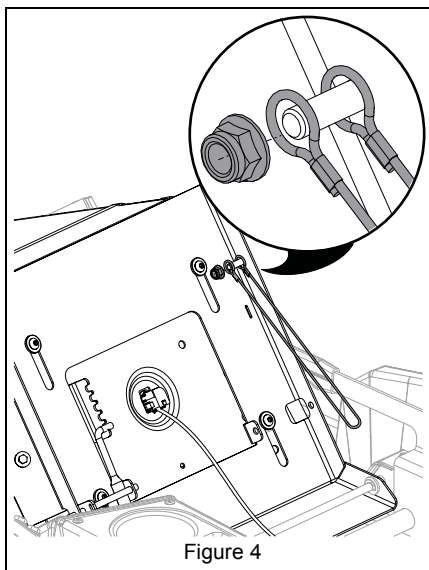

Figure 4
1. Remove nut and one end of seat cable. Reinstall nut to secure remaining cable end to seat plate. See Figure 4.